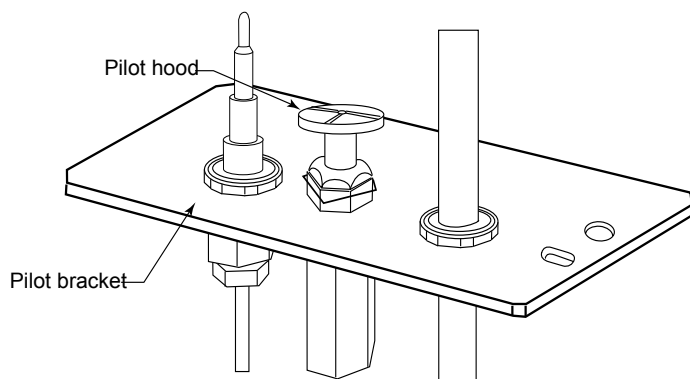

Fig. 79 Remove pilot hood.
- Remove pilot hood by lifting up. (Figure 79) Do not remove the snap ring to remove the pilot hood.